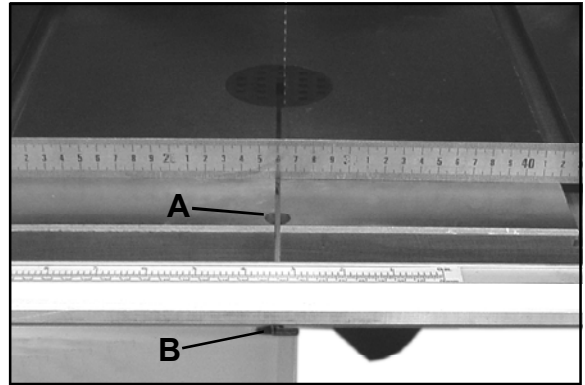

Fig. 13
The steel rule should be held on the table across the table slot close to the front edge of the table. (See Fig. 13)
If the straight edge shows there is a step across the table slot, then the table needs to be adjusted using the Hex socket screw (A) and wing nut (B) to level the two sections. (See Fig. 13)